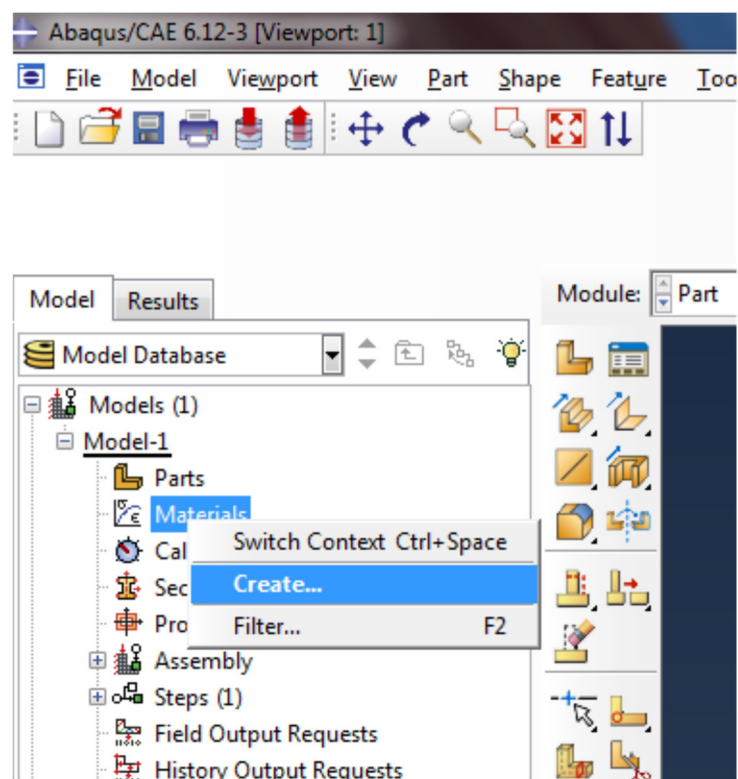

Figure 5.
- a) Open your model in CAE and right-click on the “materials” icon and click “Create...” in the pop-up menu, Figure 5.